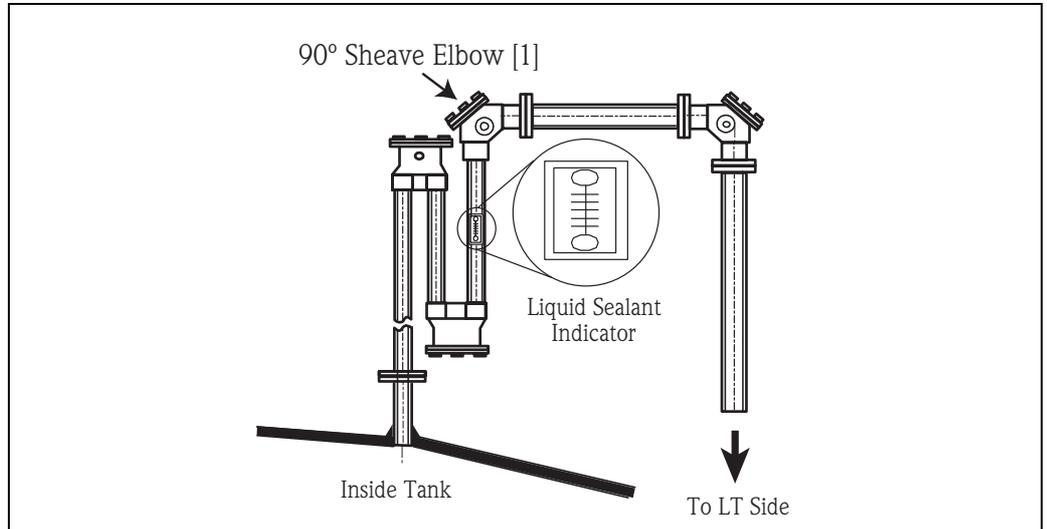

Figure 39: Filling Seal Pot with Liquid Sealant
- After LT operation check, remove the sheave elbow cover [1] and fill with liquid sealant (refer to Figure 39).